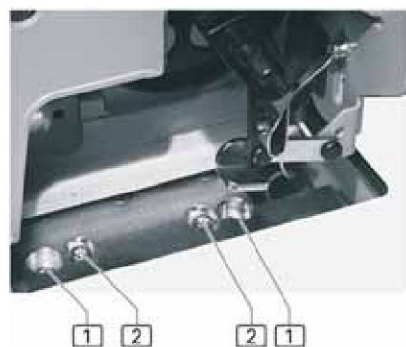

fig. 25
- 1 **fig. 25:** Loosen both locking screws **1** and the Allen screw **2** on the height adjustment device.